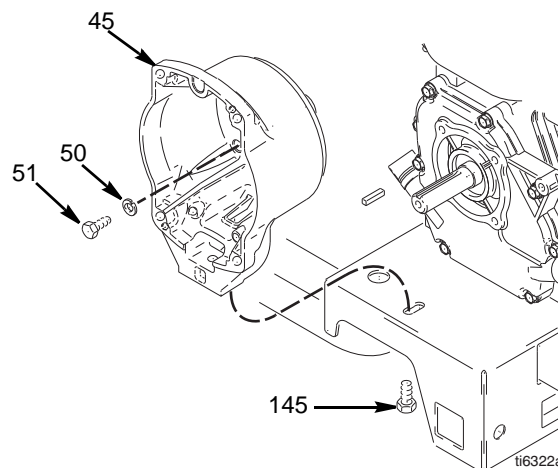

FIG. 11
3. FIG. 11. Disconnect clutch (+) and clutch (-) connectors from wire harness located under sprayer cart.
2. FIG. 11. Remove four screws (51) and lock washers (50) which hold clutch housing (45) to engine.
3. Remove screw (145) from under mounting plate.
4. Pull off clutch housing (45).
1. FIG. 11. Push on clutch housing (45).
2. Install four capscrews (51) and lock washers (56) and secure clutch housing (45) to engine. Torque to 200 in-lb (22.6 N·m).
3. Install screw (145) from beneath mounting plate. Torque to 26 ft-lb (35.2 N·m).